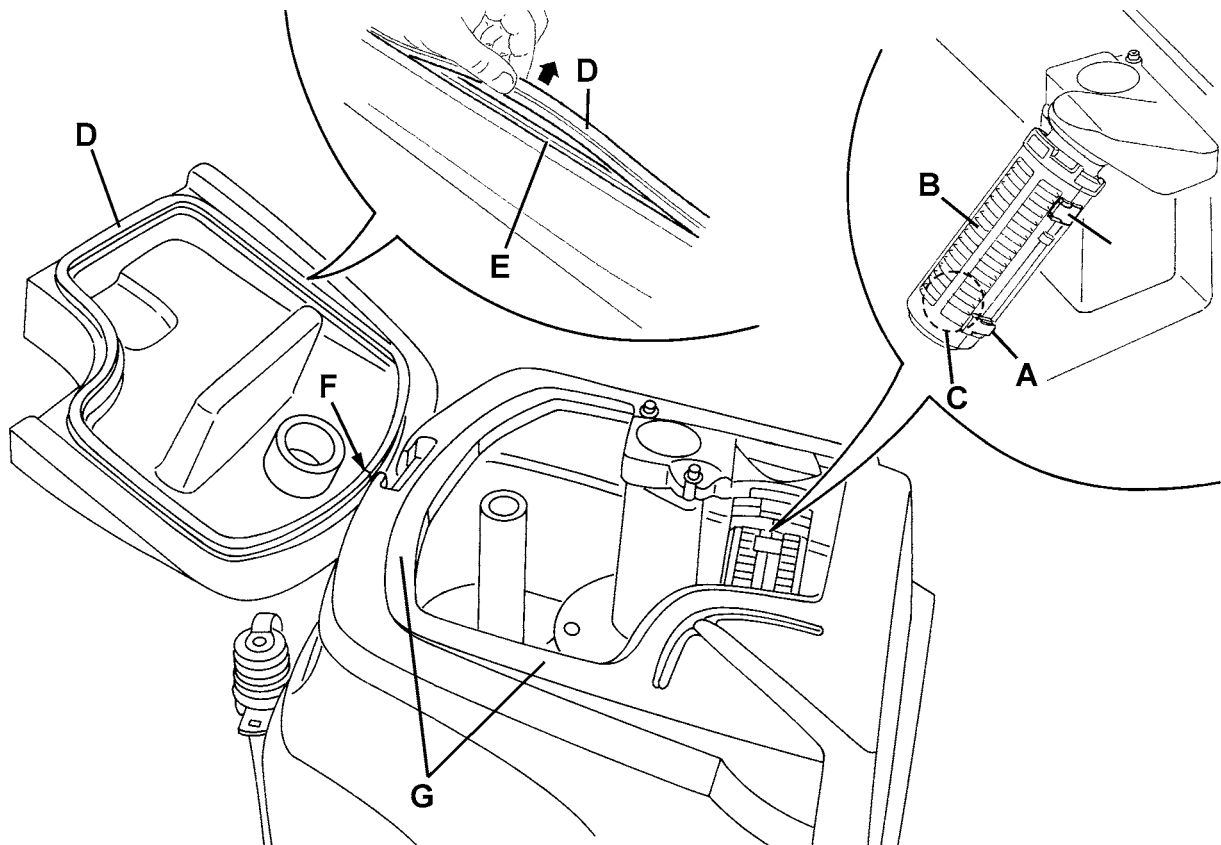

Figure 4
5. If necessary, disengage the fasteners (A, Fig. 4) and open the screen (B); recover the float (C), clean all the components and then reinstall them.
6. Check the tank cover gasket (D) for integrity.